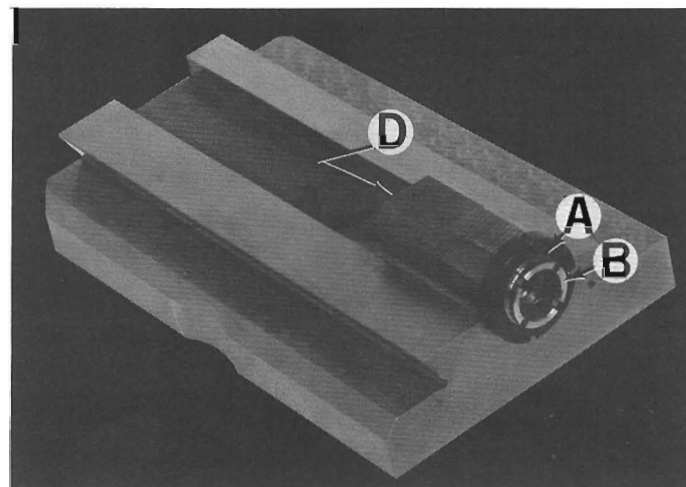

Figure 156 — Adjustable Feed Screw Nut
(B). Loosen lock nut "A", Figure 156, and unscrew half nut "B", Figure 156.
(C). Loosen set screw "C", Figure 157, to remove half nut "D", Figure 156.
1. Replace feed screw half nut "D", Figure 156, and tighten set screw "C", Figure 157.
2. Thread half nut "B", Figure 156, into casting leaving approximately $11/32$ " projection. Replace lock nut "A" but do not tighten.